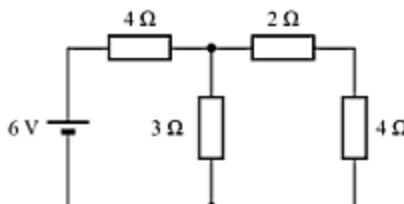

Fig. 4.52
22. For the circuit shown in Fig. 4.52, refer to Fig. 4.52. (a) Find the current in $3\text{-}\Omega$ resistor. (b) What resistance, replacing the $3\text{-}\Omega$ resistor,